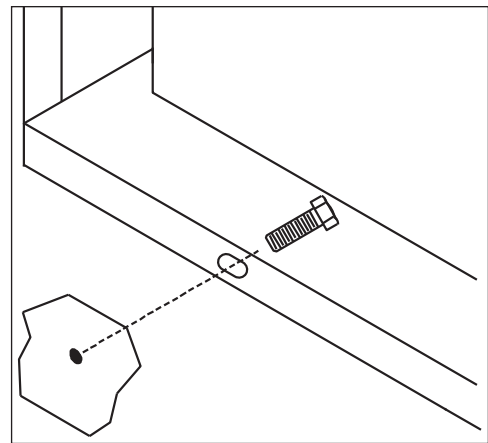

Figure 6: Wall Mounting without Bracket
2. Ensure the cabinet is level, and secure it to the wall by attaching 1/2" mounting hardware through all obround holes on the bottom rear flange of the cabinet (**Figure 6**).
6. Secure the upper-most sections to the wall by attaching 1/2" mounting hardware through all obround holes on the top rear flange of the cabinet (similar to the bottom flange attachment shown in **Figure 6**).